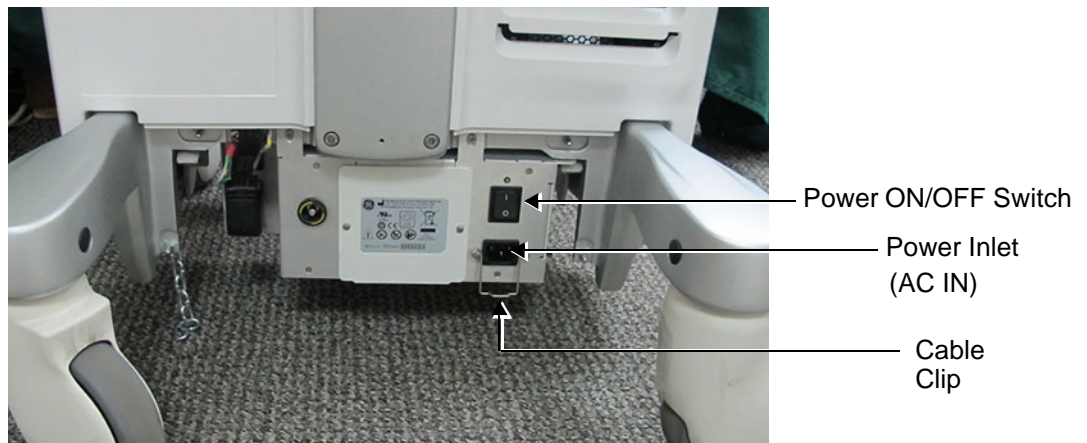
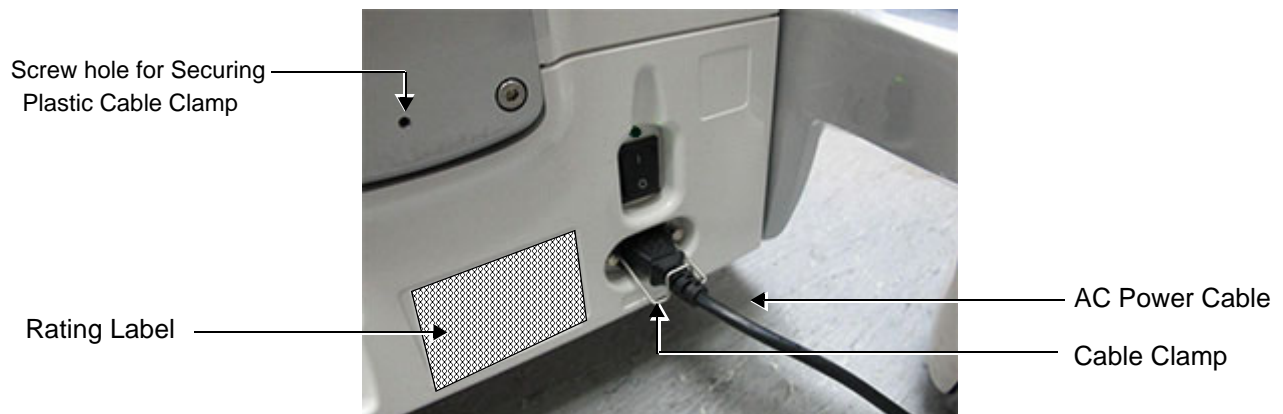

Figure 4-1 Power ON/OFF Switch and Power (AC IN) Socket - Rear Panel
Figure 4-2 AC Power Cable Connected - Rear Panel
- 6.) Connect the AC Power Cable female plug to the Power Inlet (AC IN) at the rear of the unit - see Figure 4-1. Use the cable clip to secure the cable firmly in the socket (Figure 4-2).
Note: In the next step, it is necessary to screw the plastic cable clamp (into the hole provided in the support column - centrally located at the rear of the system, see Figure 4-2). Then, to route the Mains Power cable upwards and through the clamp, and secure the clamp in position to prevent the cable from dangling down and becoming caught in the wheels when moving the scanner.